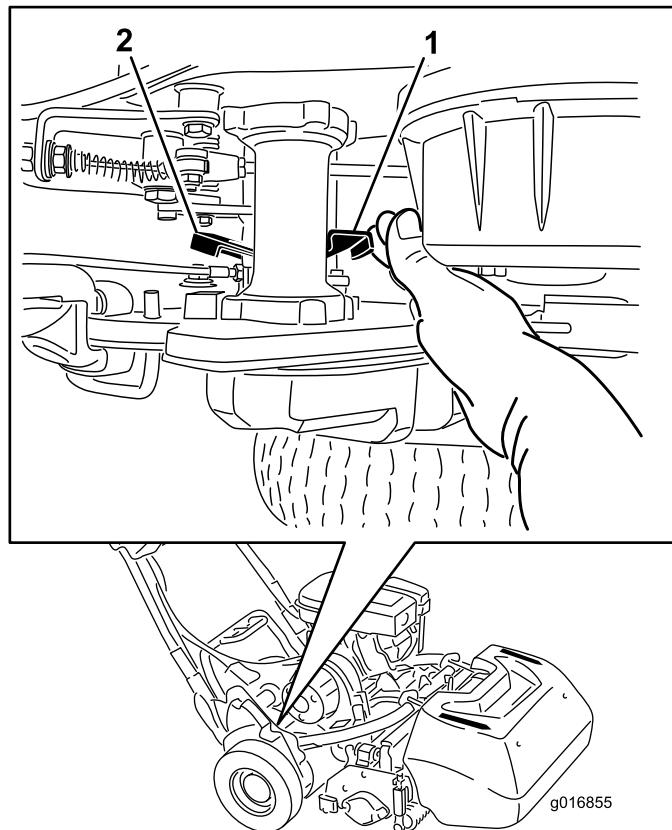

Figure 29
- On the right rear corner of the machine, locate the traction engage/disengage lever next to the drive housing drum (Figure 29).